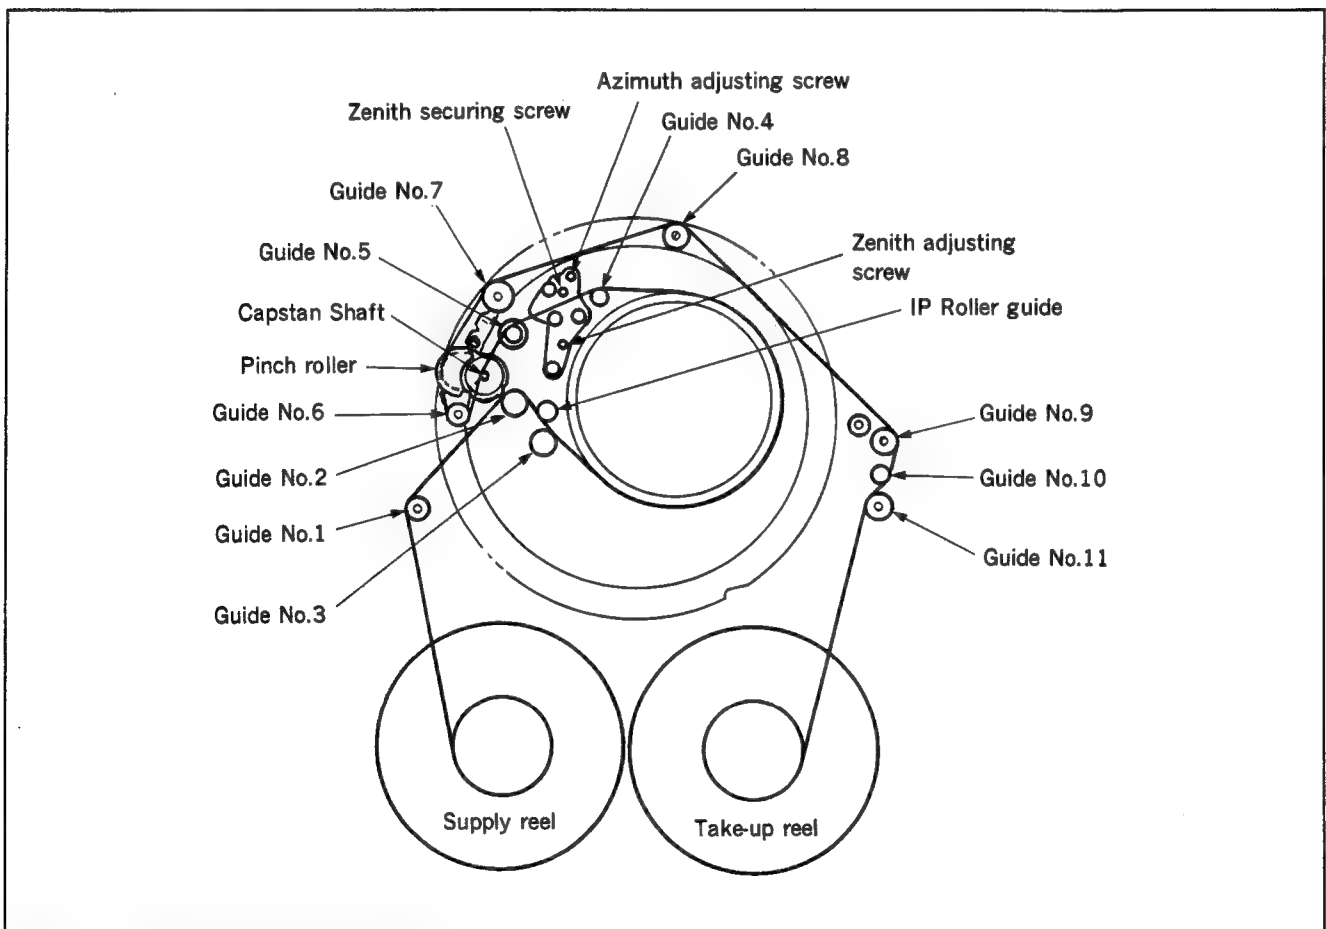

Fig. 6-1 Tape guide location diagram
- Fig. 6-1 shows the tape guide location in the threaded-end condition during tape run. Comment to be added to Fig. 6-1 are ; Guide No.1 is located on tension regulator arm ass'y. Guide No.2 and Guide No.3 are on entrance guide (K) ass'y, No.9, No.10 and Guide No.11 are on slant guide block, Guide No.6 is on pinch roller, No.7 and Guide No.8 are installed on loading ring.